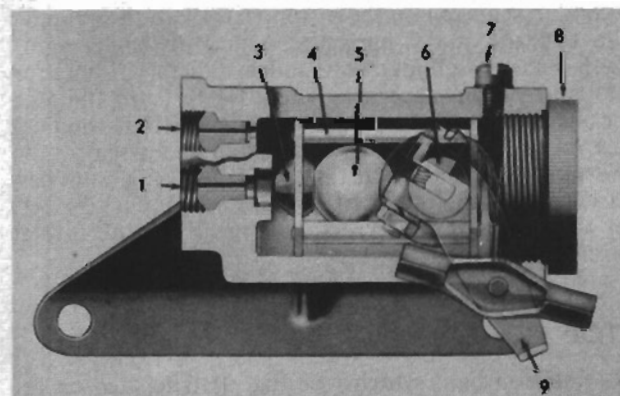

FIG. 7
When the clutch pedal is released, the cage (4, Fig. 7) holds the seal (3) away from its seat so that brake fluid may return from the outlets (2) through the inlet (1) to the master cylinder.
The Hill Holder is serviced with a repair kit which consists of the ball cage assembly (8), housing end plug gasket (10), camshaft plug gasket (4), and camshaft sealing washer (3). The ball cage assembly consists of the seal (3, Fig. 7 or 8), cage (4), and steel ball (5).